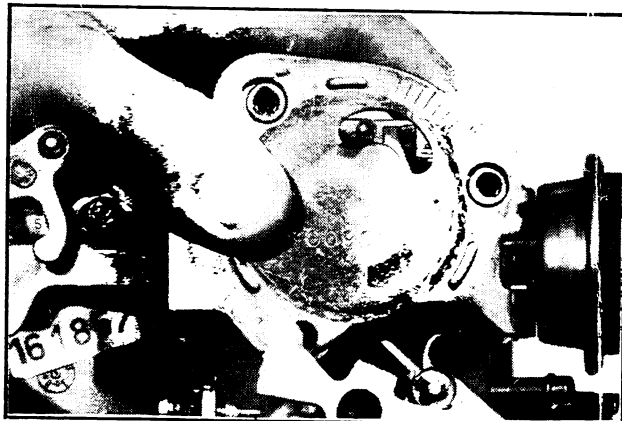

Figure 6C-122
2. Remove vacuum hose from throttle body and remove the three screws from choke retaining ring. Remove choke cover and vacuum break assembly (Fig. 6C-122).
3. Press off securing clip and withdraw choke valve link from fast idle cam slot (Fig. 6C-123).